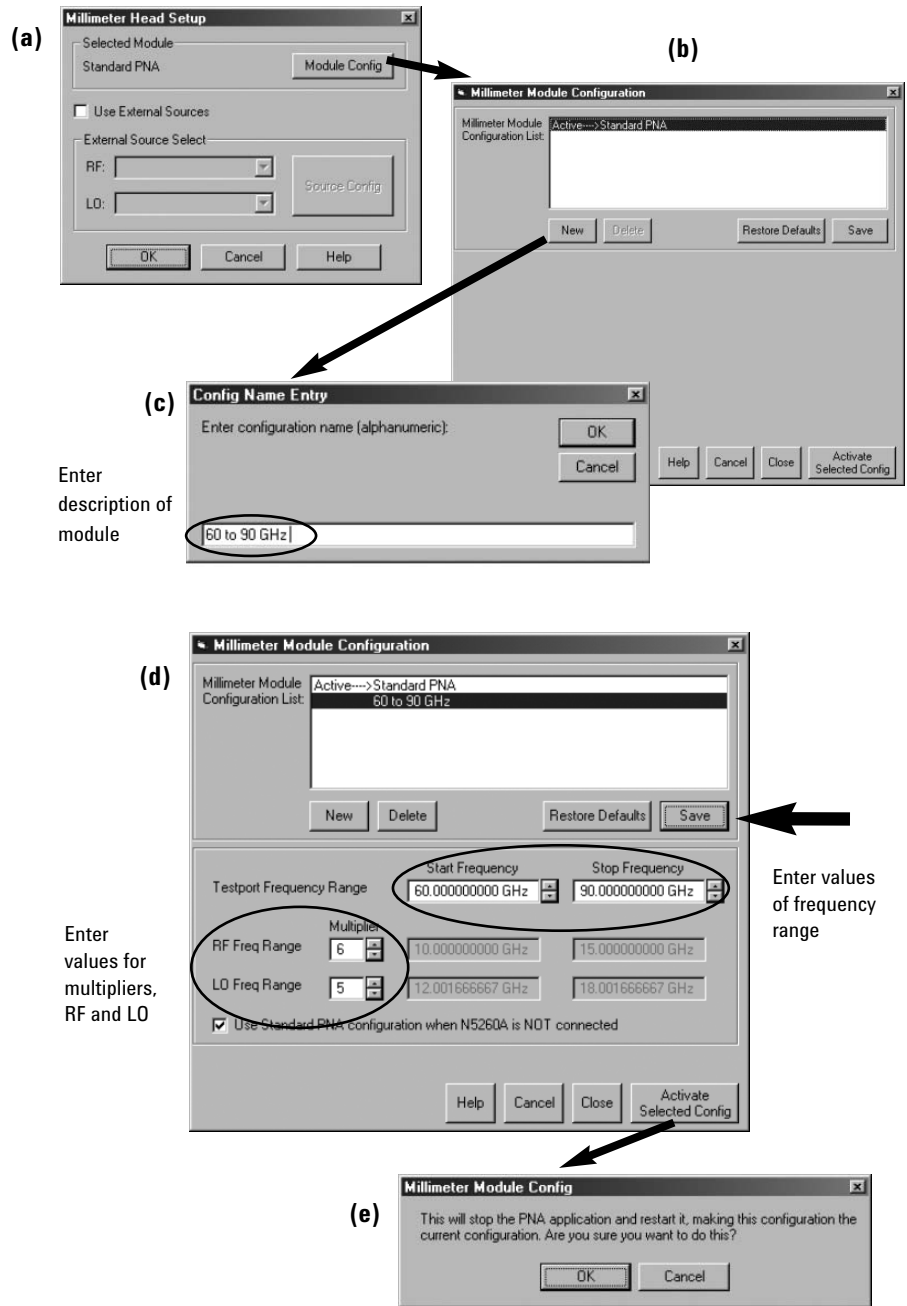

Figure 7. Steps necessary to create a millimeter-wave module configuration. The example shows a frequency band of 60 to 90 GHz.
1. **System > Configure > Millimeter Module Config...**, this brings up display (a) as shown in Figure 7.